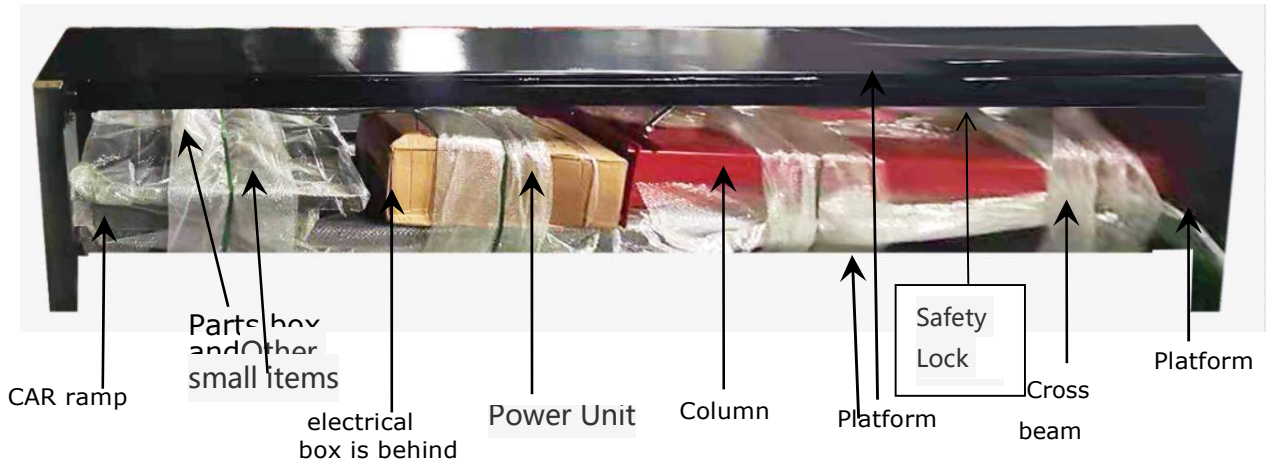

Fig.5(Note: Parts may be located in different parts in different batches)
2. Open the outer packing carefully (See Fig.5).